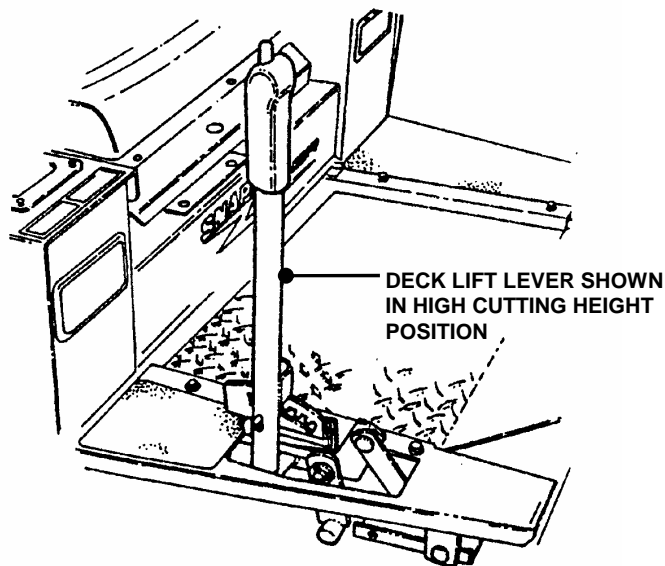

FIGURE 2.8
1. Adjust cutting height as desired to any position, using deck lift lever. See Figure 2.8.